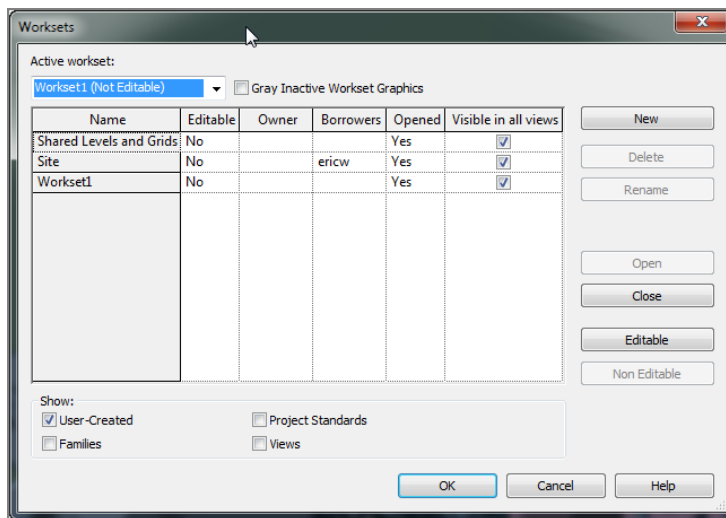

FIGURE 22.12: Borrowing a workset
4. In the Worksets dialog box, notice that you're now borrowing the Site workset, as shown in Figure 22.12. Click OK.